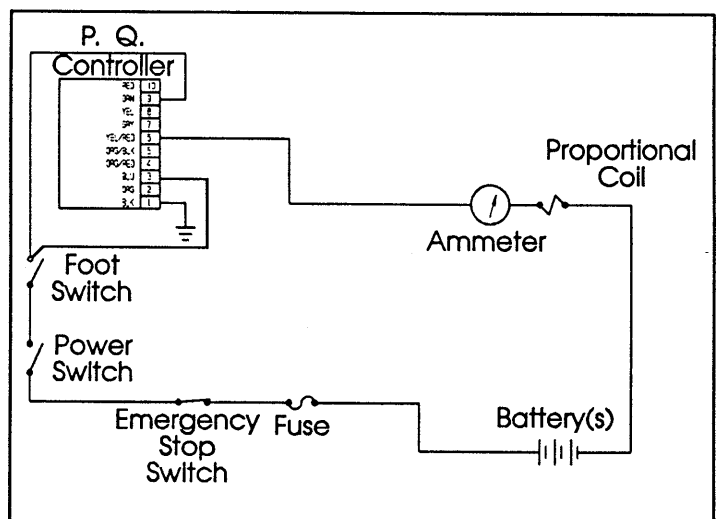

Figure 4-7: Proportional Control Test Circuit
PROPORTIONAL CONTROL ADJUSTMENT (Figure 4-7)
3. Place an ammeter in series with the Proportional Coil (See Figure 4-7).